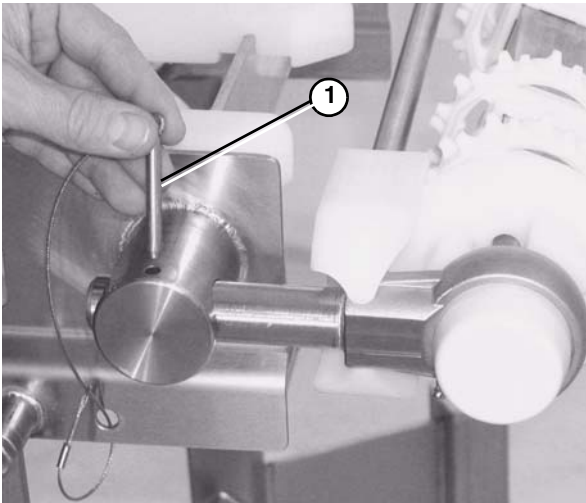

Figure 55
5. Remove the pull pin (Figure 55, item 1).
1. Remove the pull pins from take up blocks (Figure 55).